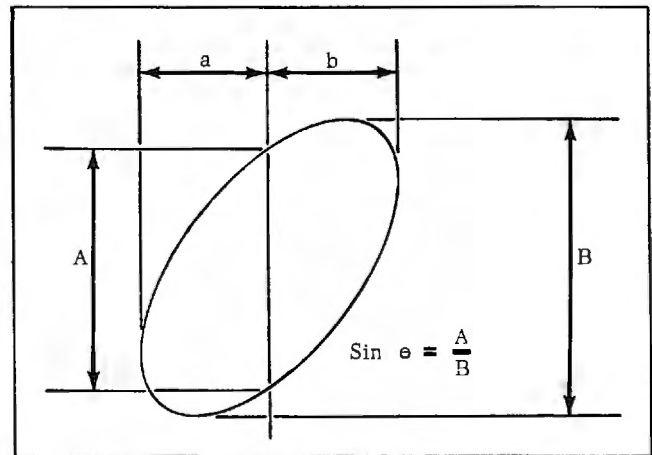

Fig. 3-6. A typical ellipse.
3. Adjust the plug-in unit VOLTS/CM controls until you get a suitable ellipse on the oscilloscope screen. The height of the ellipse is not critical; use any convenient height within the graticule area. Above 10 mc, the size of the ellipse will have to be reduced to prevent distortion due to overloading of the deflection systems. Fig. 3-6 shows the elliptical pattern displayed for a phase angle of 45 degrees. The procedure for measuring the phase angle is independent of the shape of the ellipse.
4. Use the POSITION control of the plug-in unit in the HORIZONTAL channel to center the ellipse about a vertical graticule line. Make the dimensions a and b , shown in Fig. 3-6, equal to each other. Within reasonable limits, the specific value chosen for the dimensions a and b does not affect the accuracy of the measurements.